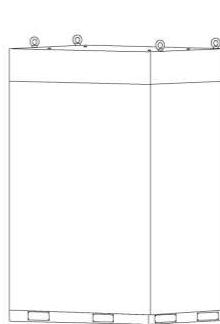

Figure.3
2. Insert the four eyebolts into holes on the top f the machine and then turn them clockwise until they are secured firmly. See the Figure.2 and Figure.3.
①
②
③